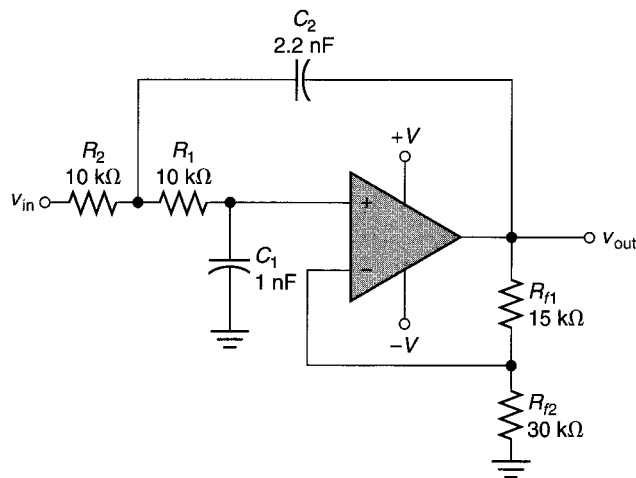

FIGURE 17.45
9. Calculate the bandwidth and closed-loop voltage gain of the filter in Figure 17.45.